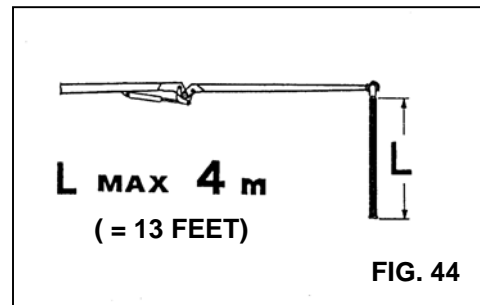
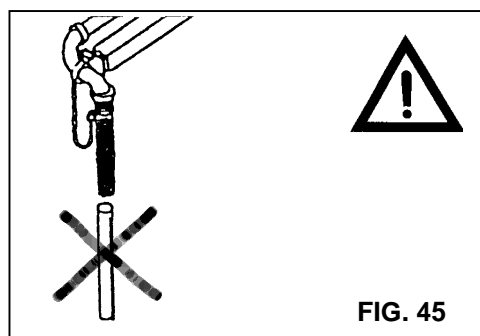

FIG. 44
FIG. 45
05.1.10 – It is forbidden to extend the distributor boom and the end hose beyond the length specified on the boom plate (fig. 44). It is forbidden to connect additional delivery pipes to the end hose (fig. 45).